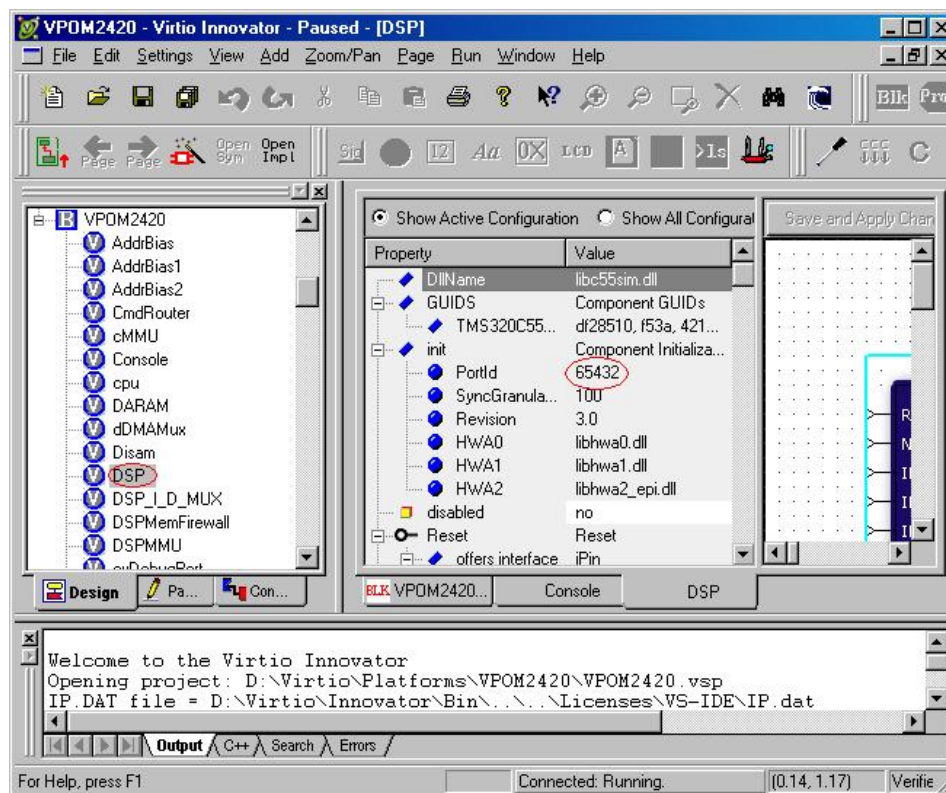

Figure 3. Component Setting from VPOM2420
6. If you change the server port number, you must change the portId in VPOM2420 platform as shown in Figure 3. To do so, follow these steps: